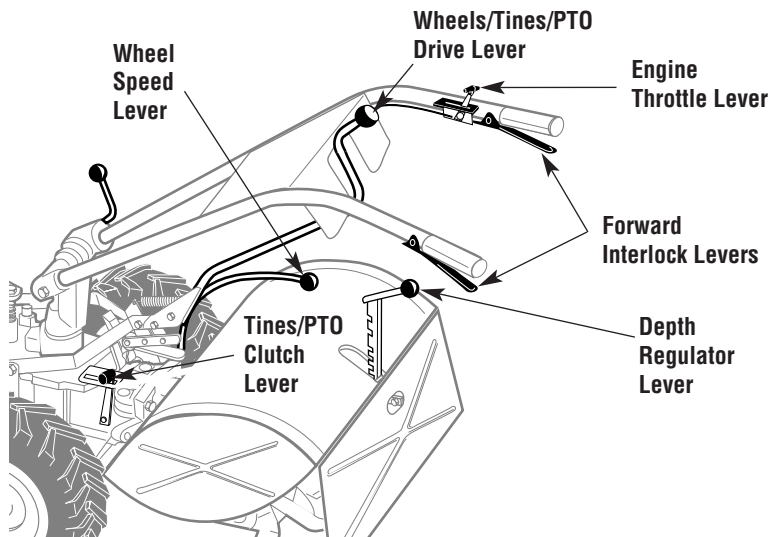
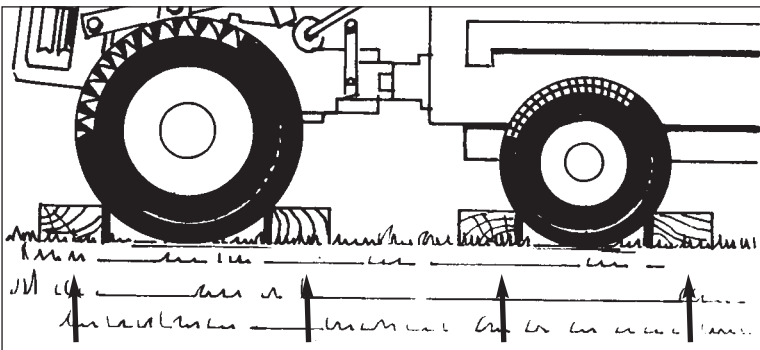

Figure 4-22: PTO Power Unit controls.
Figure 4-29: Block wheels on PTO Power Unit and stationary attachment.
4. Place the Wheels/Tines/PTO Drive Lever into NEUTRAL (Figure 4-22).
5. Place Tines/PTO Clutch Lever in DISENGAGE (Figure 4-22).
6. Place Wheel Speed Lever into FREE WHEEL (Figure 4-22).
2. Move Wheel Speed Lever (Figure 4-22) to FREEWHEEL, then block all wheels (Figure 4-29) to prevent the equipment from rolling.
1. Move the Tines/PTO Clutch Lever (Figure 4-22) to DISENGAGE.
2. Move the Wheel Speed Lever (Figure 4-22) to either SLOW or FAST position. To do this, roll the PTO Power Unit while shifting lever until wheels engage.
1. Move Tines/PTO Clutch Lever (Figure 4-22) into ENGAGE.
2. To apply power to PTO-driven attachments, move Wheels/Tines/PTO Lever (Figure 4-22) down to FORWARD position (*do not use REVERSE with stationary attachments*).